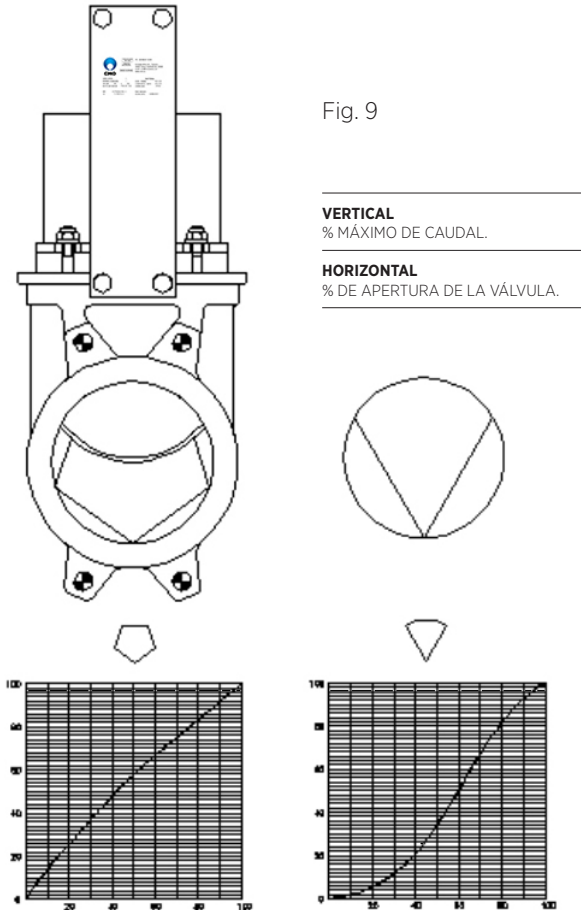

Fig. 9
**TRIANGULAR (V-NOTCH) AND PENTAGONAL DIAPHRAGM WITH INDICATION RULE (Fig. 9)**